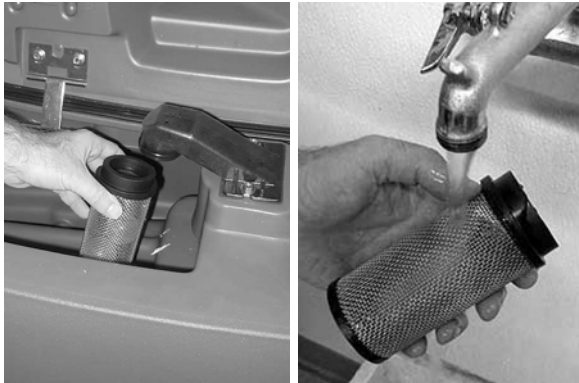

FIG. 44
- Remove and clean the float shut-off screen located in the recovery tank (Figure 44).